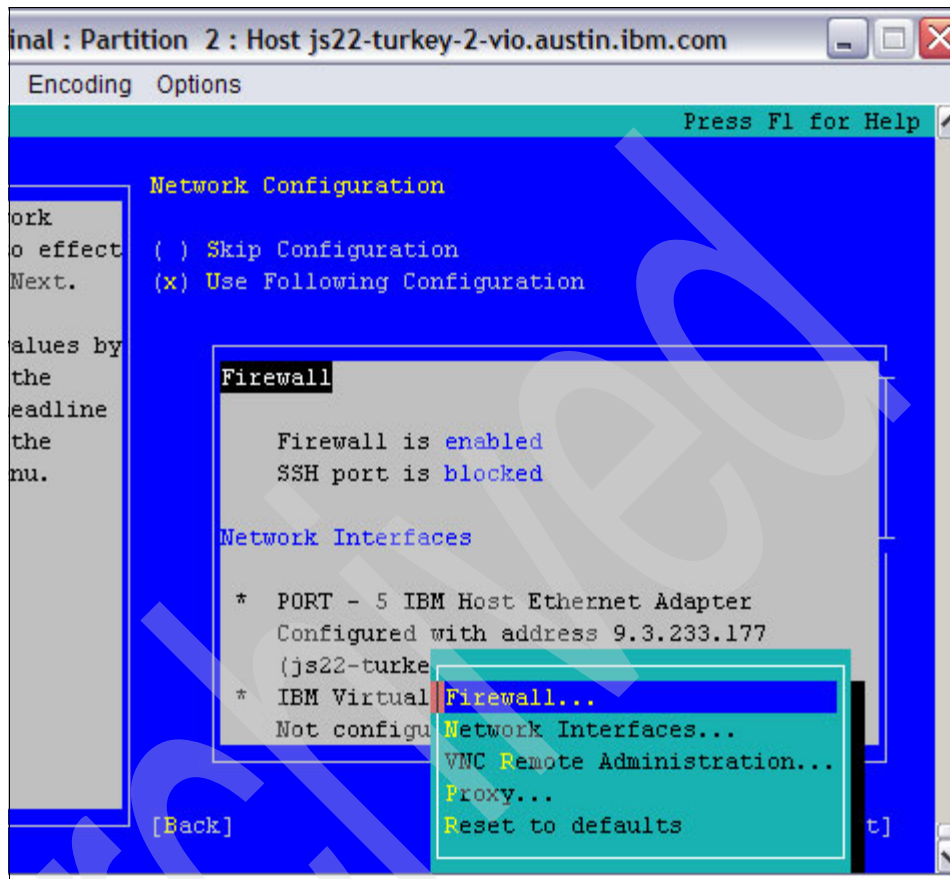

Figure 7-16 Select firewall
- a. Select **Firewall** in Figure 7-16.